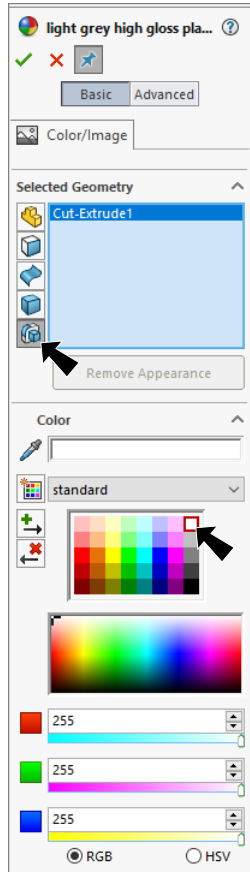

Fig. 24
Step 3. In the Appearances Property Manager, under Selected Geometry click **Select Features** , Fig. 24